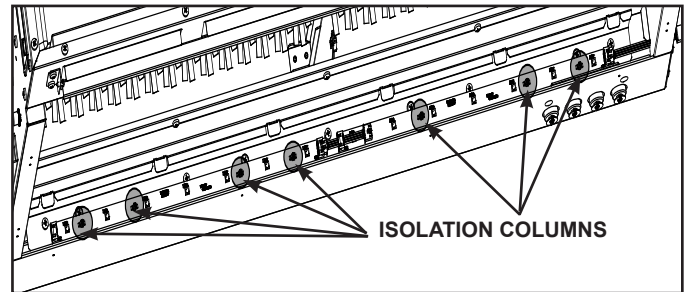

Figure 10. Isolation Columns
4. Remove the LED light board from the bottom isolation columns. Starting at one end of the board use a needle-nose pliers to compress the plastic barbs from each isolation column as each plastic barb is compressed, disengage the LED light board from each barb. See Figure 10.